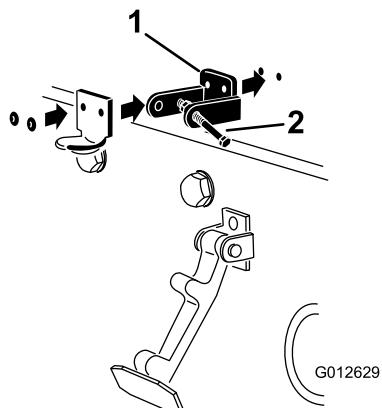

Figure 24
6. Rivet the brackets and the washers to the hood (Figure 24).